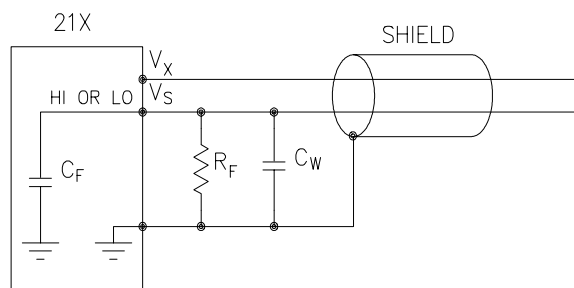

FIGURE 13.3-8. Measuring Input Settling Error with the 21X
5. Use the 21X to measure the input settling error associated with a given configuration. For example, assume long leads are required but the lead capacitance, C_w , is unknown. Configure R_f on a length of cable similar to the measurement. Leave the sensor end open as shown in Figure 13.3-8 and measure the result using the same instruction parameters to be used with the sensor. The measured deviation from 0V is the input settling error.